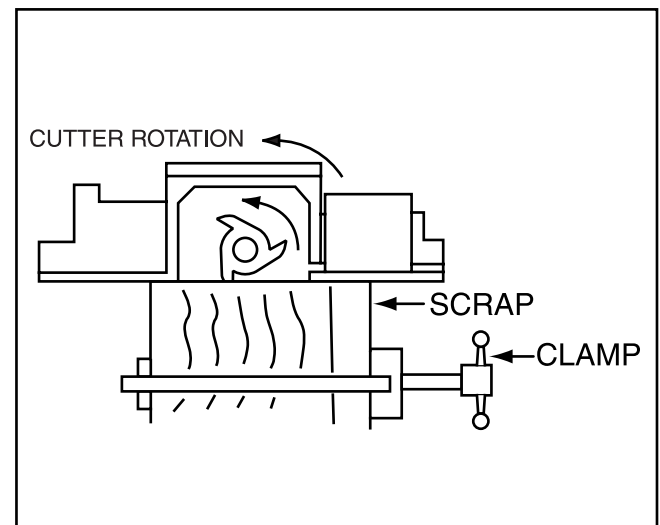

Figure 17.
2. Clamp a piece of scrap to the trailing edge of the workpiece while shaping. See **Figure 17.**